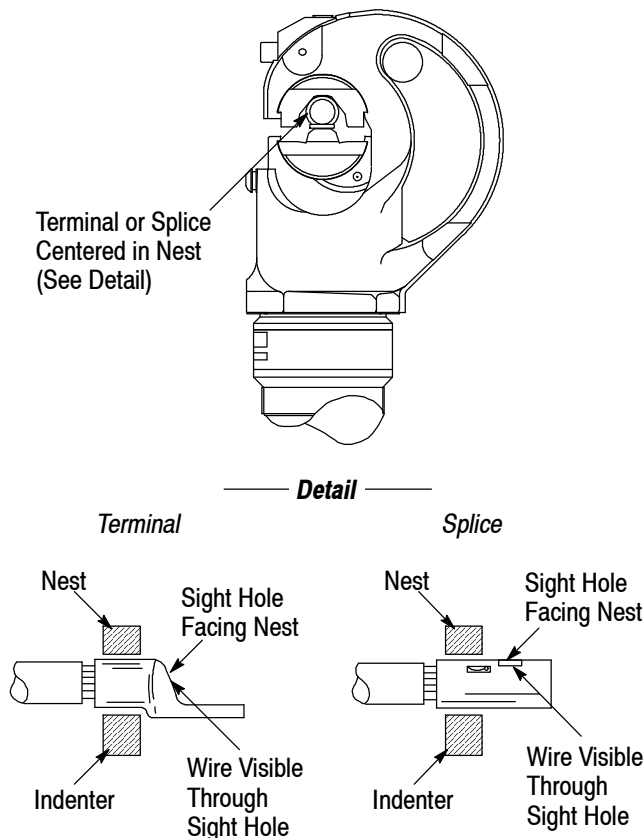

Figure 4
4. Center the terminal or splice in the nest as shown in Figure 4.